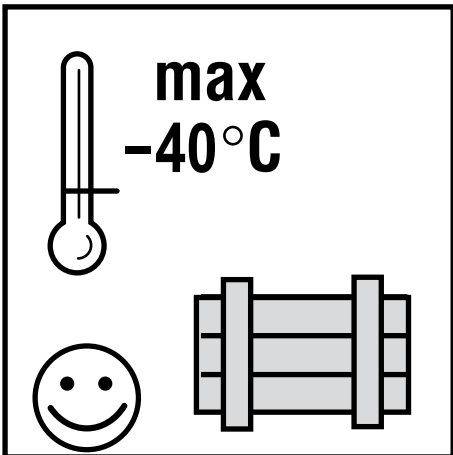

Fig.: 8
- Storage temperature with original motor filling up to -40°C , with water filling frost-free (fig. 8)